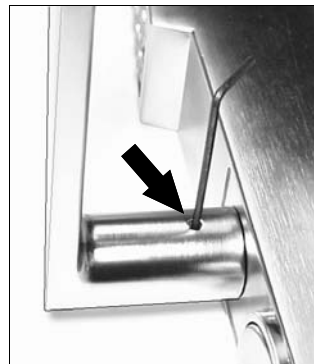

Fig. 2: Tighten lever set screw with 1/8" hex wrench
2. **Install the lever with proper orientation for the lock/door hand used.** Tighten the set screw using a 1/8" hex wrench (see Fig. 2).